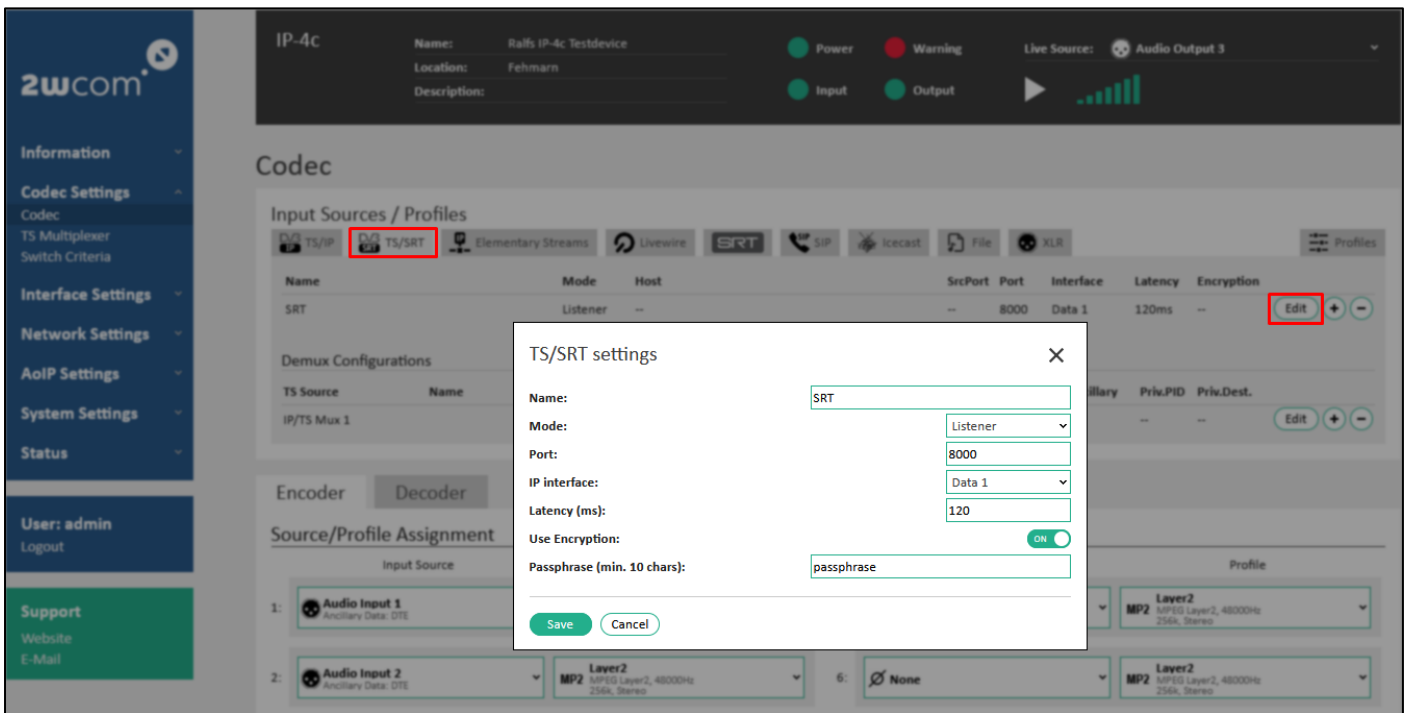

Figure 13: Input Source for coder – TS/SRT
- Enter the following data in the fields of the configuration of the input source TS/SRT in the “Edit” menu (see Figure 13 “Input Source for coder – TS/SRT” on page 32):